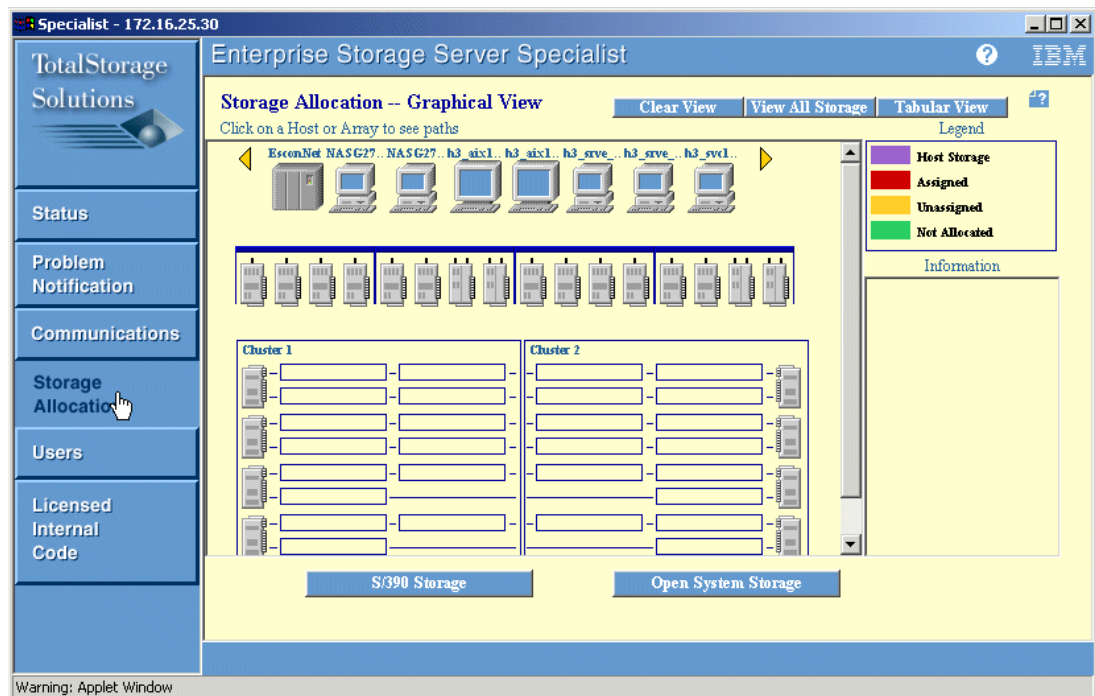

Figure 3-15 Storage Allocation window
4. Sign on the ESS specialist. On the left side of the window that opens, select **Storage Allocation**. Figure 3-15 shows the Storage Allocation window.